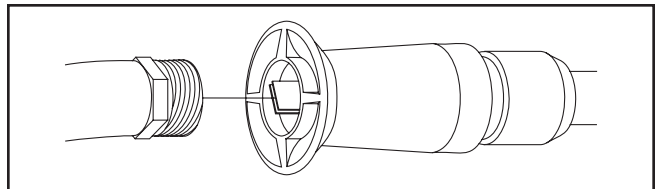

Figure 19: Backflushing the nozzle extension
7. Using a garden hose, remove additional debris by back flushing water through nozzle extension (Figure 19). Back flush between 30 to 60 seconds. Turn adjustable nozzle extension to stream spray and move nozzle from low to high while flushing.